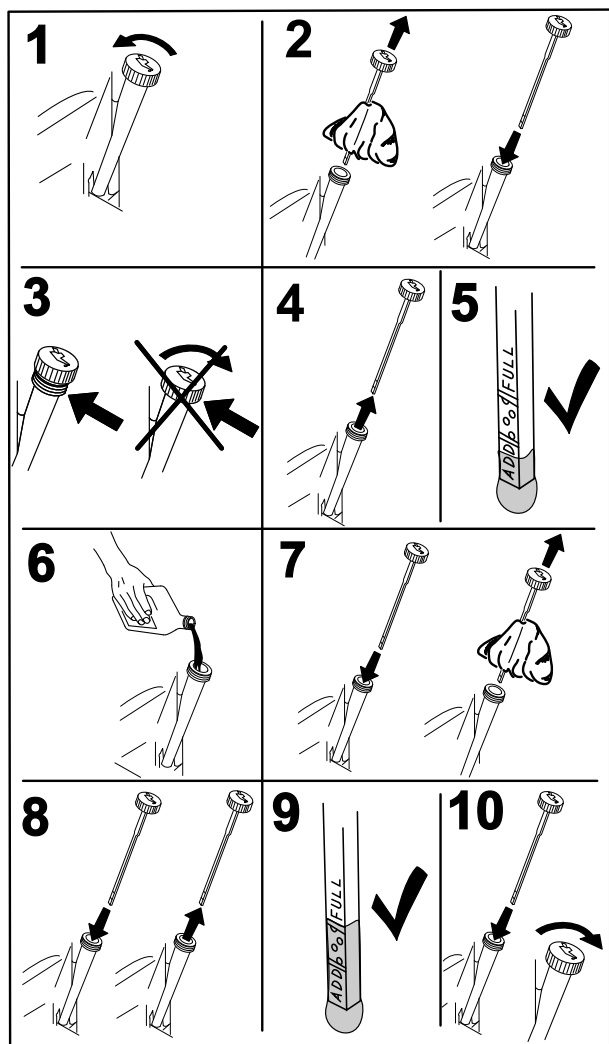

Figure 34
4. Stop the engine, remove the key, and wait for all moving parts to stop before leaving the operating position (Figure 34).